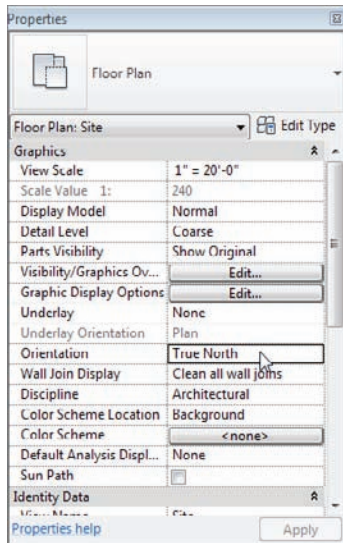

FIGURE 18.28 Orienting the site to true north
1. In the Properties dialog, change Orientation to True North, as shown in Figure 18.28.